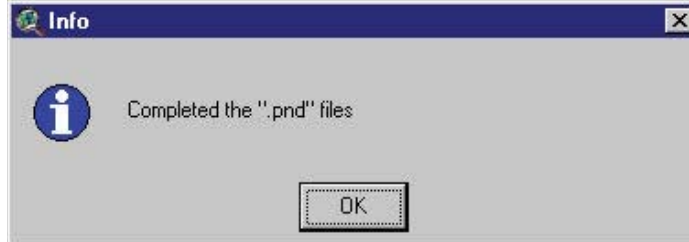

Figure 8.24
- k. From the **Input** menu, select **Write Pond Data (.pnd)** (or press **Ctrl+M**). This selection generates the subbasin pond data (see *Soil and Water Assessment Tool User's Manual, Version 2000*, Chapter 28). When the data files have been written, a message box will pop up (Figure 8.24).